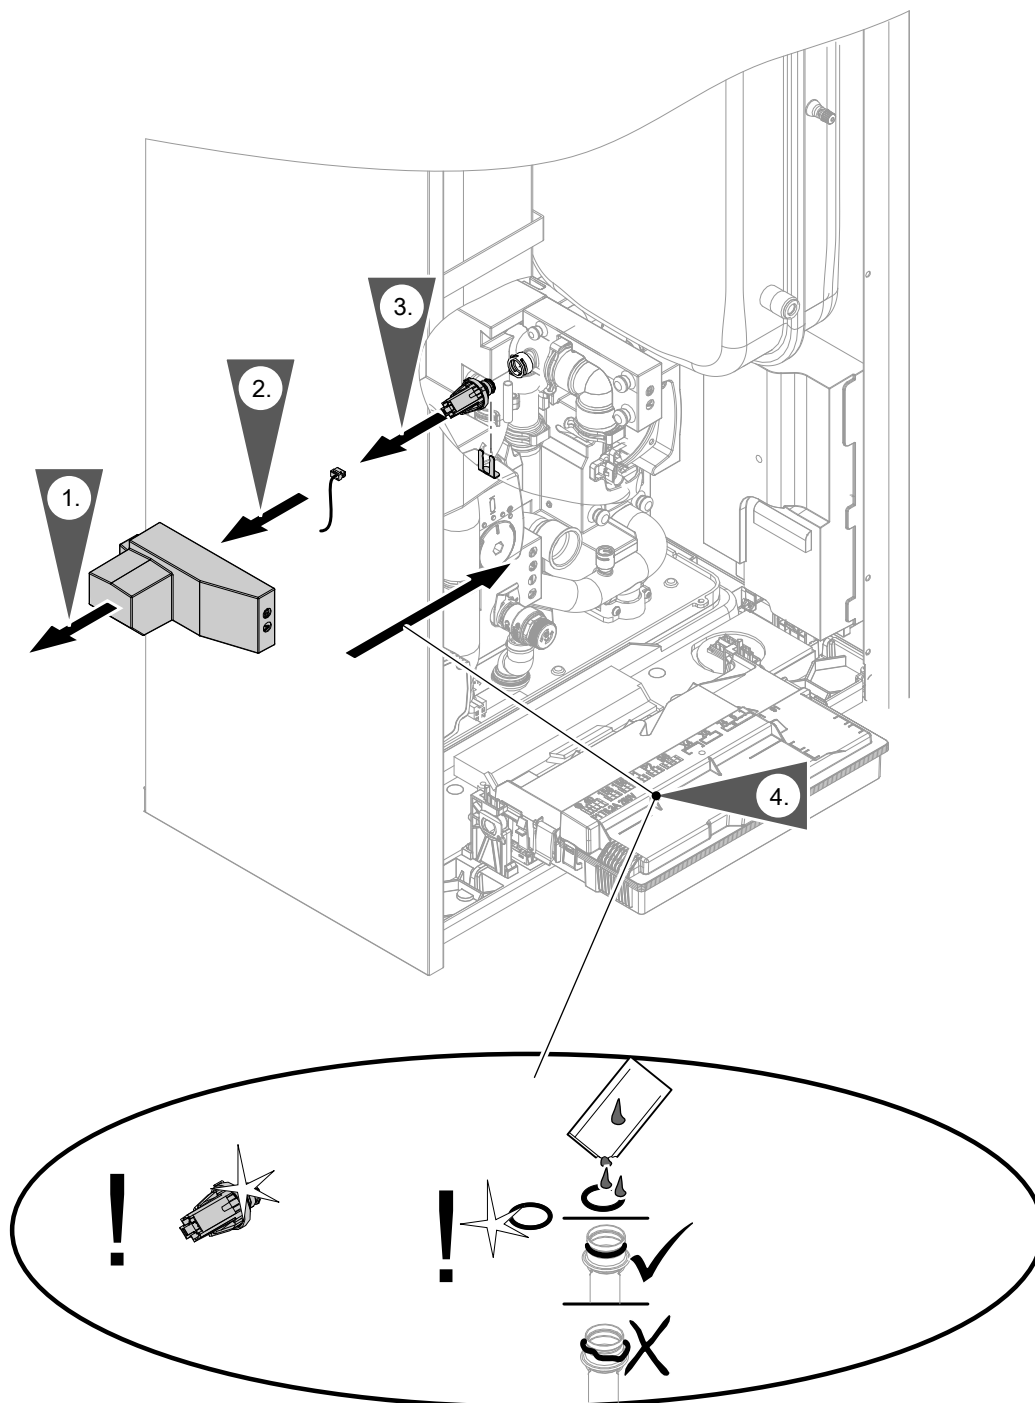

Fig. 95
- Water pressure sensor: See Fig. 95.